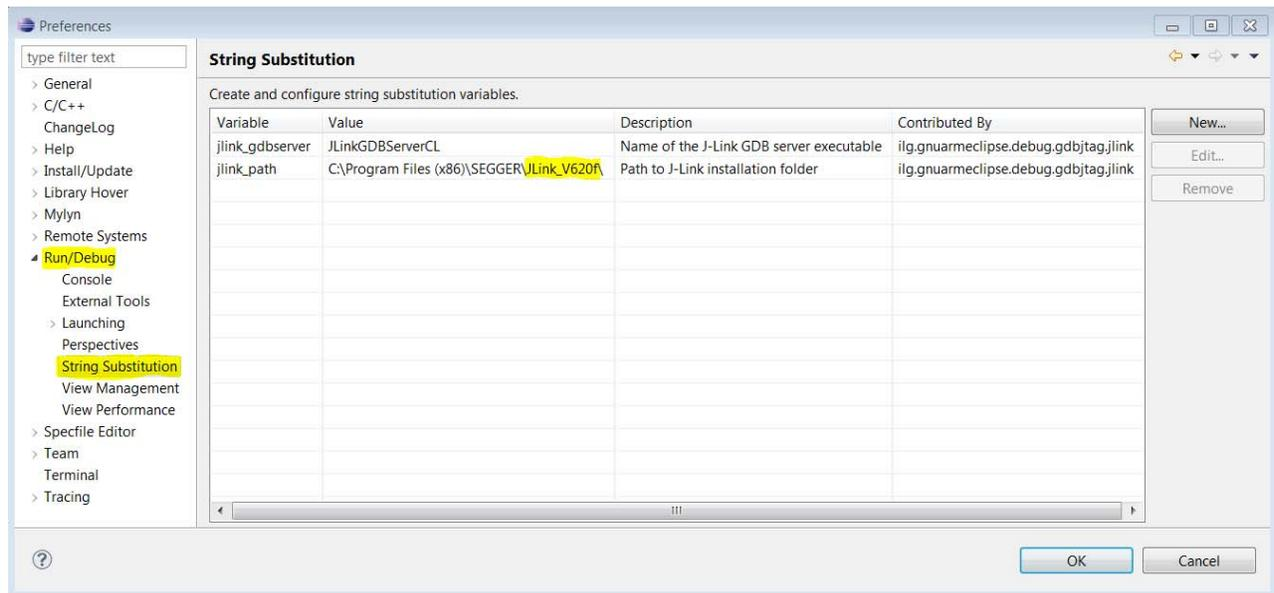

Figure 16. Configuring the J-Link GDB Server
2. Make sure the *Jlink_gdbserver* and *jlink_path* resemble the image in Figure 16.